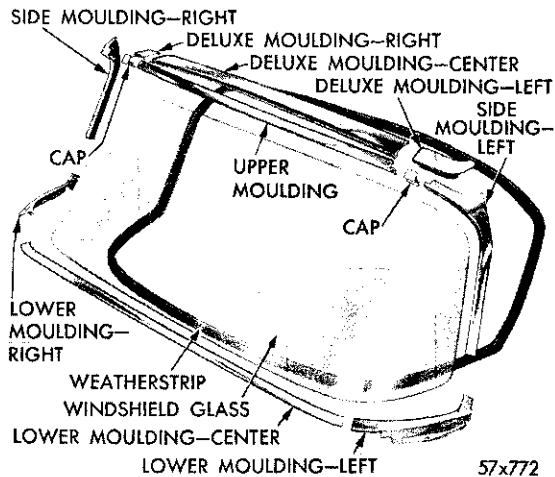

Fig. 49—Windshield and Moulding Assembly (C-75, C-76)
23. REMOVAL AND INSTALLATION OF WINDSHIELD GLASS (C-75, C-76 and Imperial) (Refer to Figs. 49 and 50)